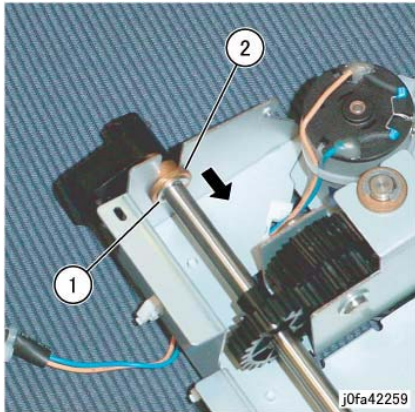

Figure 8 Moving the Bearing
14. Move the Bearing (Figure 8):